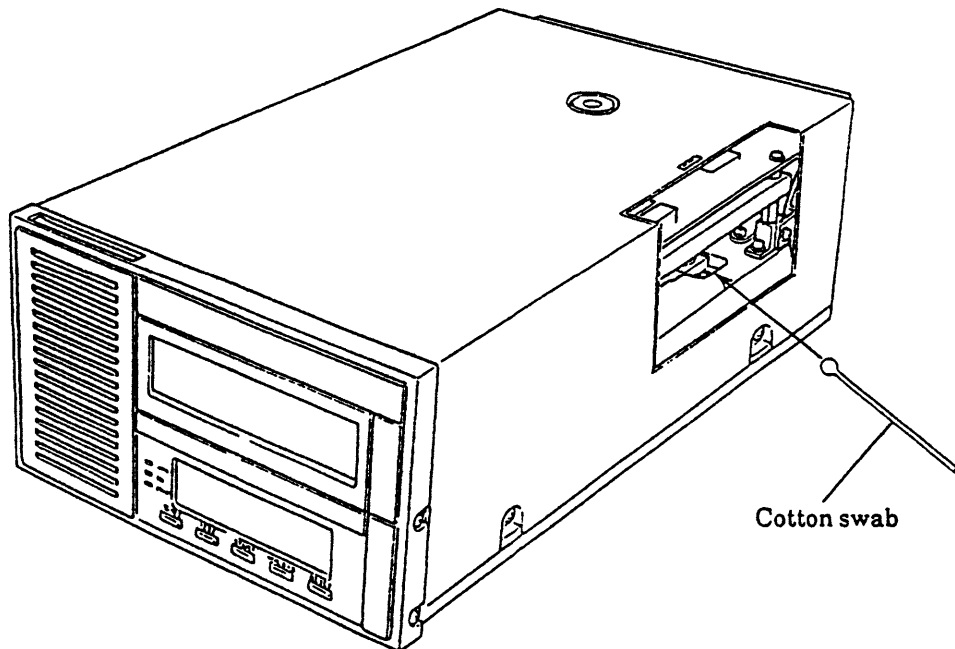

Figure 12.13 Tape path cleaning
- ① Remove the small cover of the top cover.
- ② Clean the tape path (head) using the cotton swab and cleaning solvent (isopropyl alcohol) from the window of the top cover (see Figure 12.13).